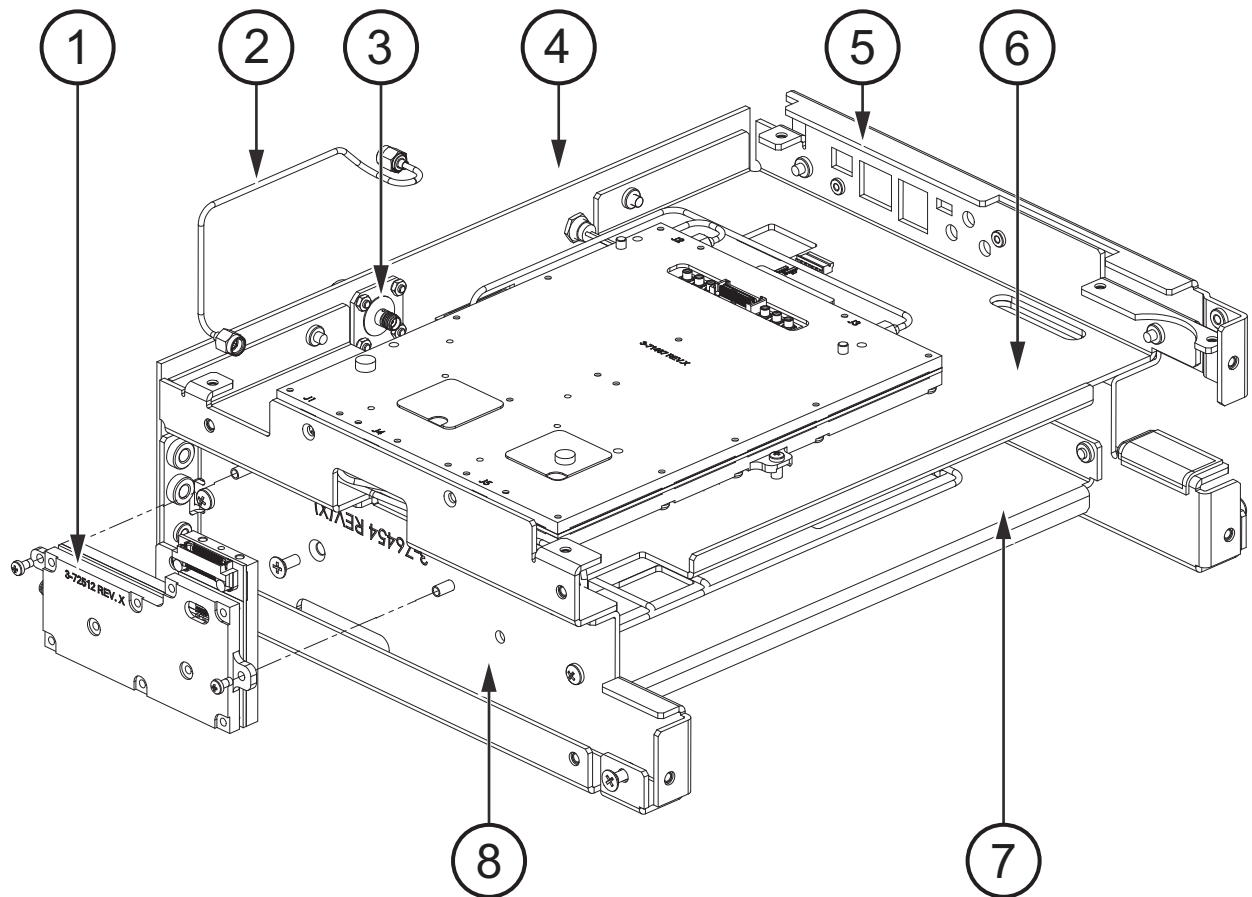

Figure 5-5. VNA Option
12.	M3, 6 mm Screw (1 of 2) to secure RF Board to Chassis Tray (item 6 in Figure 5-5 on page 5-7)